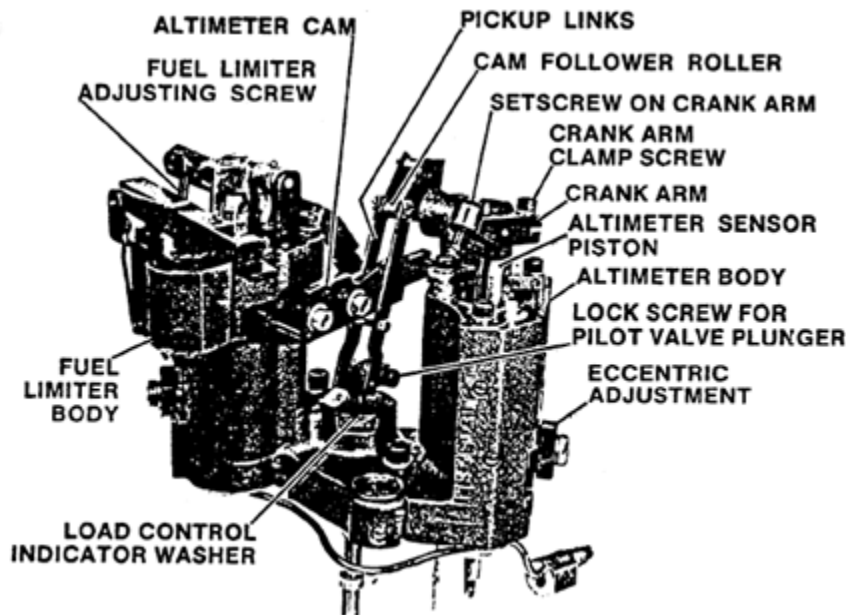

Figure 6-7. Fuel Limiter and Altitude Compensator
- f. Place a dial indicator on load control indicator washer. See Figure 6-7.
- h. Loosen pilot valve plunger lock screw (Figure 6-7). With speed selector at step 1 and 0.820 inch (20.83 mm) gap block in place move load control pilot valve up or down with load control indicator washer until vane servo is balanced.